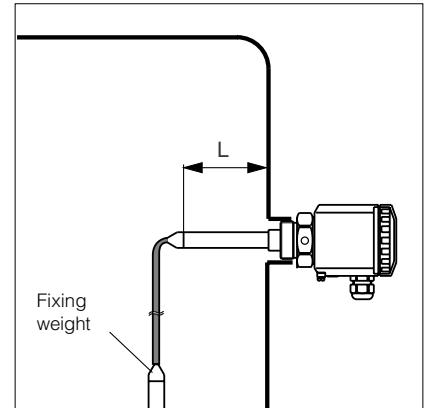

Fig. 3.10 Continuous electrodes
In our price list (under accessory), you will find a screening tube and a closing cone or an L-shaped rod electrode that allow the instrument to be mounted laterally. Select the length (L) of the screening tube such that no product bridges can form between cable and vessel wall, and the electrode cable can never touch the wall due to product movement. Use a fixing weight (fig. 3.10).